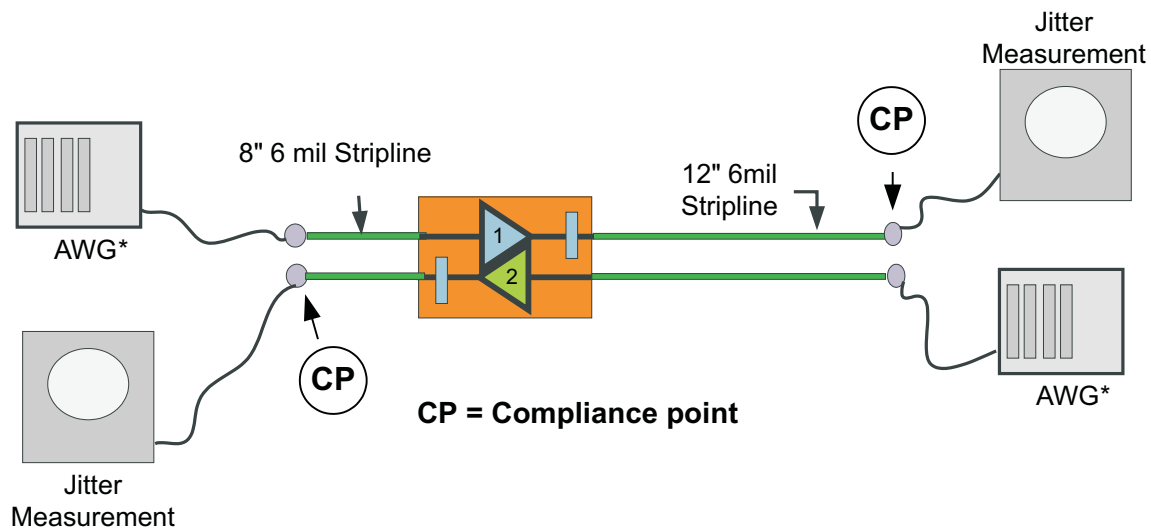

Figure 9. Jitter Measurement Test Condition
- (1)  $TJ = (14.1 \times RJ_{SD} + DJ)$ , where  $RJ_{SD}$  is one standard deviation value of RJ Gaussian distribution. Jitter measurement is at the SATA connector and includes jitter generated at the package connection on the printed circuit board, and at the board interconnect as shown in Figure 9.